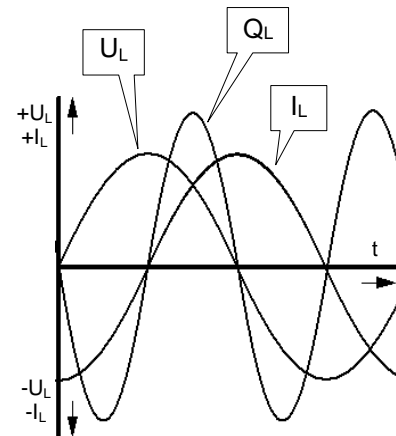

Fig. 11.4.3.2: Reactive power, Q_L
- Assemble the circuit in Fig. 11.4.3.3 on the Electronic Circuits Board.